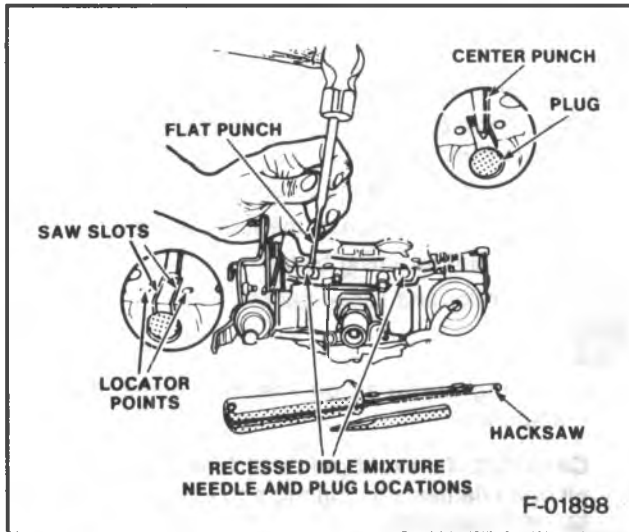

Figure 31 — Removing Idle Mixture Needle Plugs
4. Remove idle mixture needle plugs (figure 31).